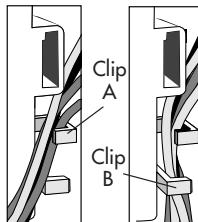

Figure D.1A    Figure D.1B
4. Connect the red BNC cable to the BNC connector on the monitor labeled R, the green BNC cable to the BNC connector labeled G/Sync, the blue BNC cable to the BNC connector labeled B. If you have a fourth BNC connector (Composite Sync), connect it to the BNC connector on the monitor labeled HS/CS. If you have a fifth BNC connector (Vertical Sync), connect it to the BNC connector on the monitor labeled VS (**Figure C.1**). Place the 15-pin VGA to BNC Cable under Clip A (**Figure D.1A**). Then place the 15-pin VGA to BNC cable under Clip B (**Figure D.1B**).